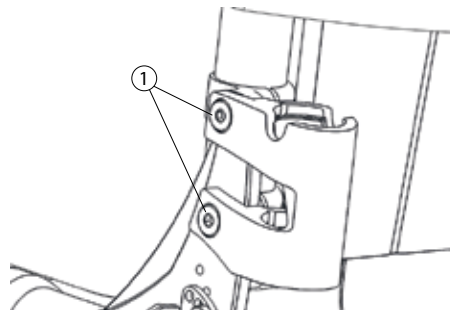

Fig. 18
- Remove the two bolts (fig 18)